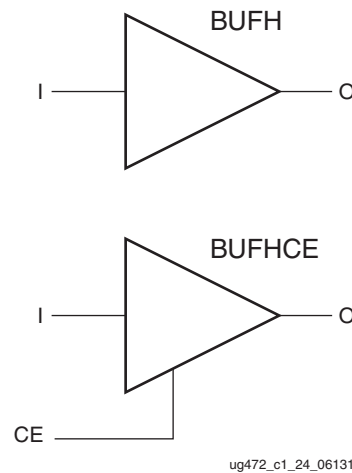

Figure 2-26: BUFH and BUFHCE Primitives
The horizontal clock buffer (BUFH) drives a horizontal global clock tree spine in a single region (Figure 2-26). Each region has 12 BUFHs available. Every BUFH has a clock enable pin (CE) that allows the clocks to be turned-off dynamically. BUFHs can be driven by: